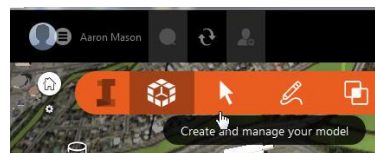

Figure 15: Create and Manage your Model Menu
- Select the “Create and manage your model” menu (Figure 15)